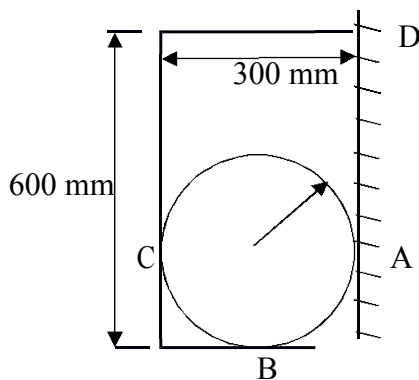

Fig. 2a
- (a) A 600 N cylinder is supported by the frame BCD as shown in Fig. 2a. The frame is hinged at D. Determine reactions at A, B, C and D.